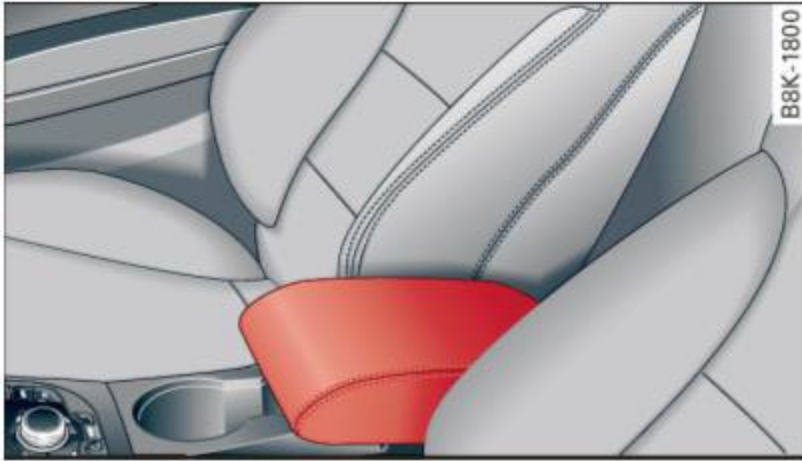

Fig. 52 Armrest between the driver's/front passenger's seats.
- ▶ To adjust the angle, raise the armrest from the starting position ⇒ *fig. 52* detent by detent.